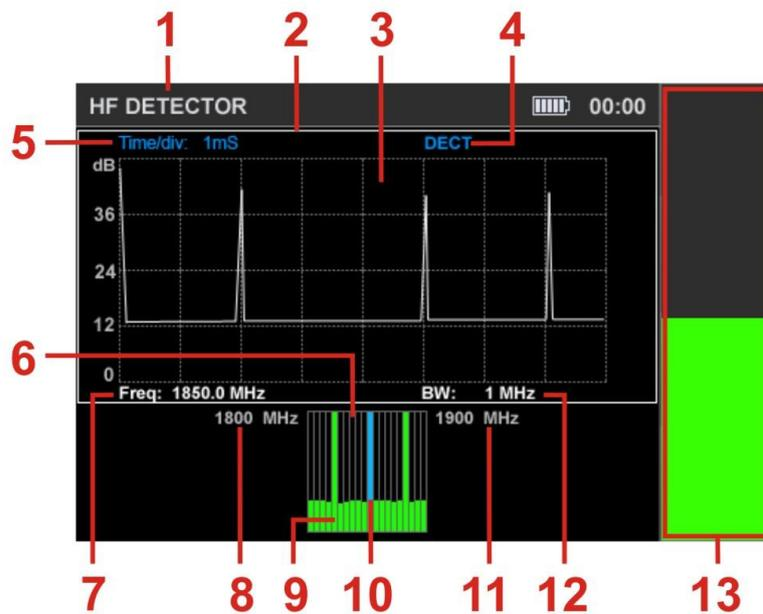

Fig.19
Upon activation, the screen will look as shown in fig.19.
In fig.19:
- Signal level bar (fig.19, 13)
- OSCILLOSCOPE (fig.19, 3)
- SPECTRUM ANALYZER (fig.19, 6)
The signal level bar shows signal level at the current frequency (fig.19, 7) as determined by the position of the SPECTRUM ANALYZER marker (fig.19, 10). The oscillogram (fig.19, 3) and the spectrogram (fig.19, 6) are displayed in two other windows. Only one window can be active at a time, highlighted by a white frame (fig.19, 2). To switch between OSCILLOSCOPE and SPECTRUM ANALYZER windows, use the ∇ and \triangle keys.